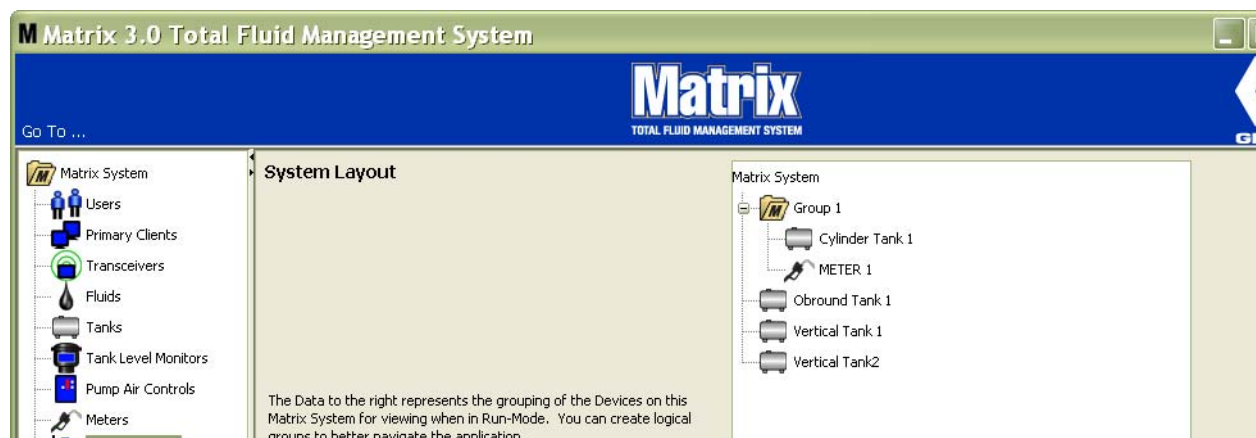

FIG. 149
12. When you are finished creating or modifying group folders, click OK to close the screen and save the changes. The Group(s) you created are displayed in the Matrix System column (FIG. 149).